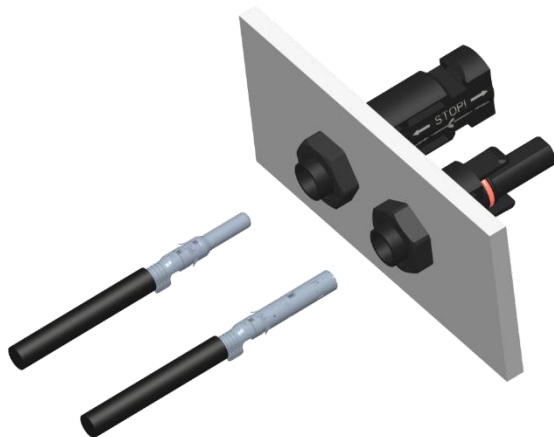
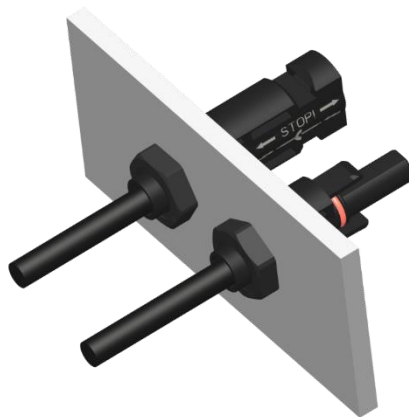

Figure 17
Figure 18
- ✧ 压接好的插针/插套插入到公端面板连接器/母端面板连接器内，直至其啮合（如图 17）。轻轻拉动导线，检查金属件是否啮合牢固（如图 18）。
Insert the crimped male or female terminals into corresponding male or female panel connectors separately until they engage (Fig.17). Pull lightly on the lead to check that the metal part has engaged (Fig. 18).